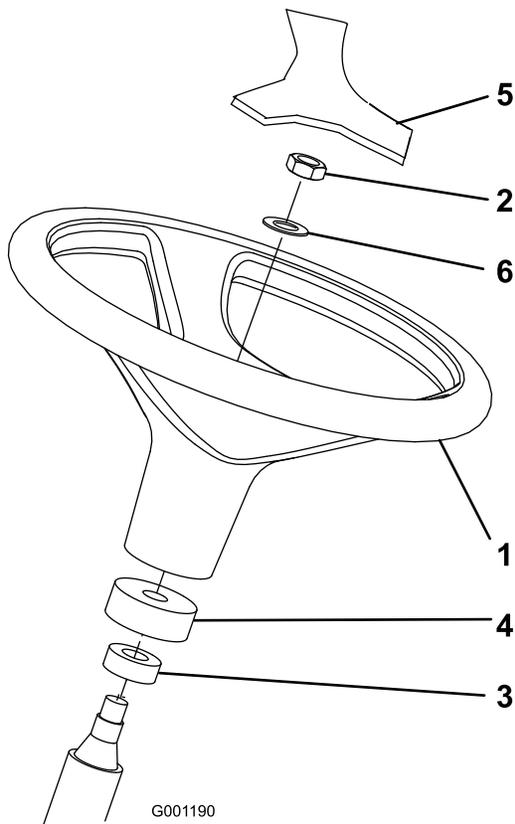

Figure 3
1. Remove the steering wheel from the shipping skid (Figure 3).
Note: Ensure that the foam collar and dust cover remain on the steering shaft (Figure 3).
3. Slide the steering wheel and washer onto the steering shaft (Figure 3).
5. Mount the cover to the steering wheel (Figure 3).